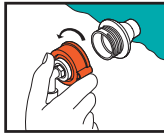

Figure 3: Unscrew hose connector cap
1. Unscrew the hose connector cap (Figure 3) from the product.